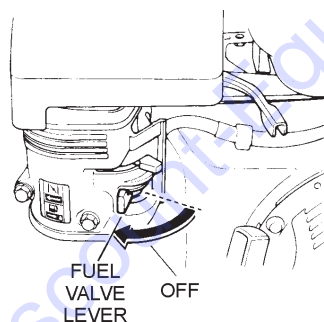

Figure 18. Fuel Valve Lever (OFF)
3. Place the fuel shut-off lever (Figure 18) in the "**OFF**" position.